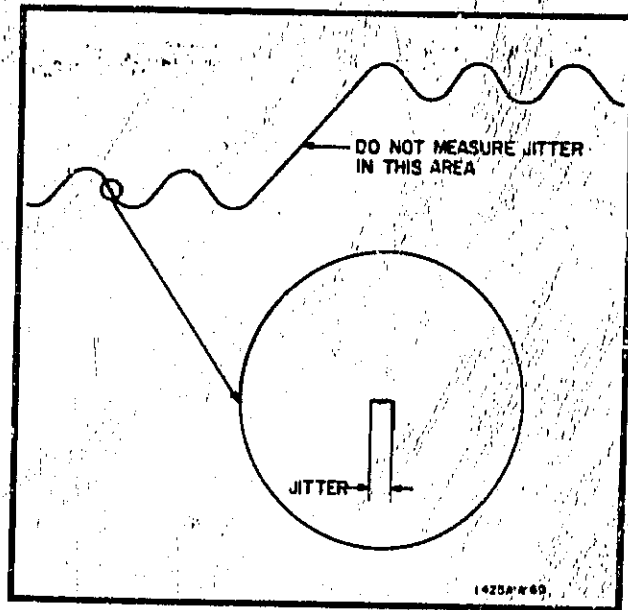

Figure 3. Jitter
10. Jitter is defined as being 20 ps when 80% of the dots comprising the signal width appear within 20 ps on the fastest rising portion of a display. See Figure 3. Tables 1 and 2 give the sensitivity specification.